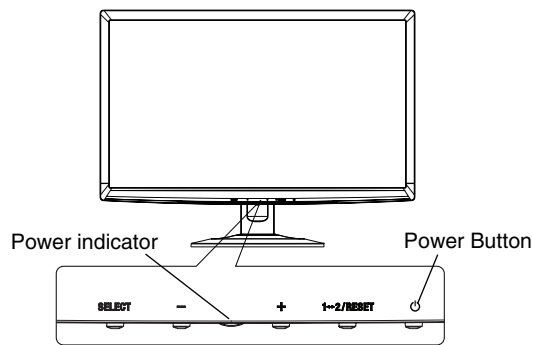

Figure E.1
5. Turn on the monitor with the front power button (**Figure E.1**) and the computer.